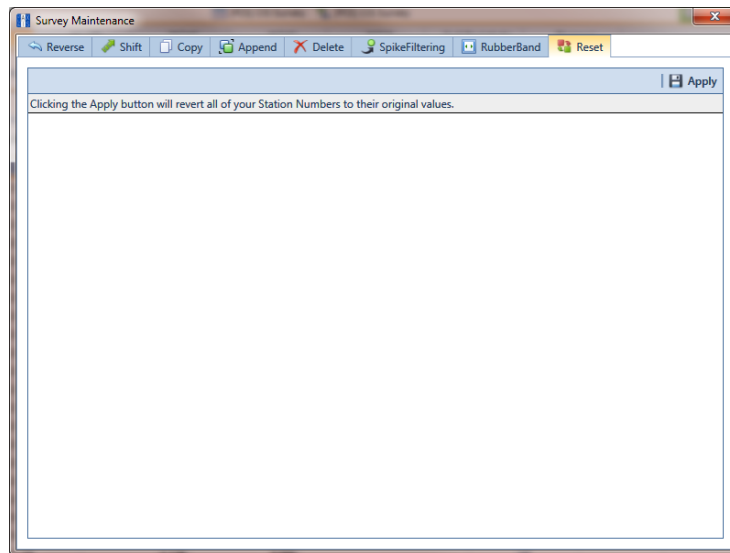

Figure 7-79. Reset
- 5 Click  **Survey Maintenance** to open the *Survey Maintenance* dialog box. Then click  **Reset** (Figure 7-79).